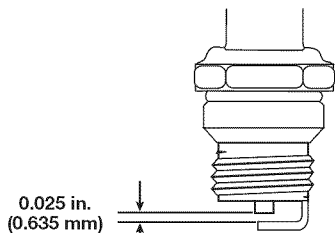

Fig. 34
- Replace cracked, fouled or dirty spark plug. Set the air gap at **0.025 in. (0.635 mm)** using a feeler gauge (Fig. 34).